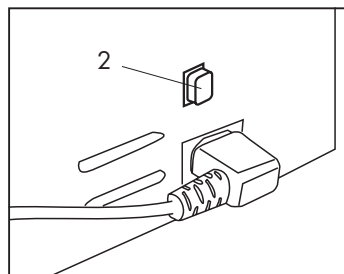

Fig. 4
- Switch on the machine with the main switch (2).(Fig.4)
- The control buttons will start to blink slowly; once they reach the temperature, the buttons will light up with a fixed light, indicating that the machine is ready for use (Fig.4).